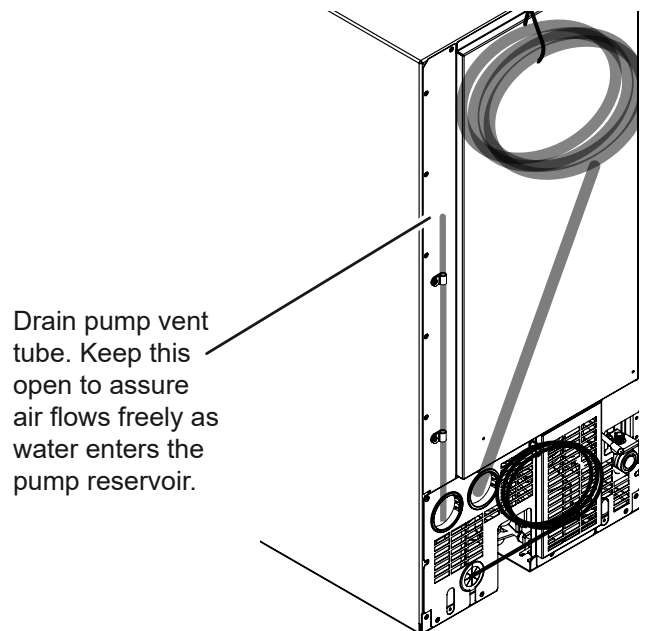

Figure 13: Location of vent tube.
- d. The vent tube on the back of the unit is open (Figure 13).